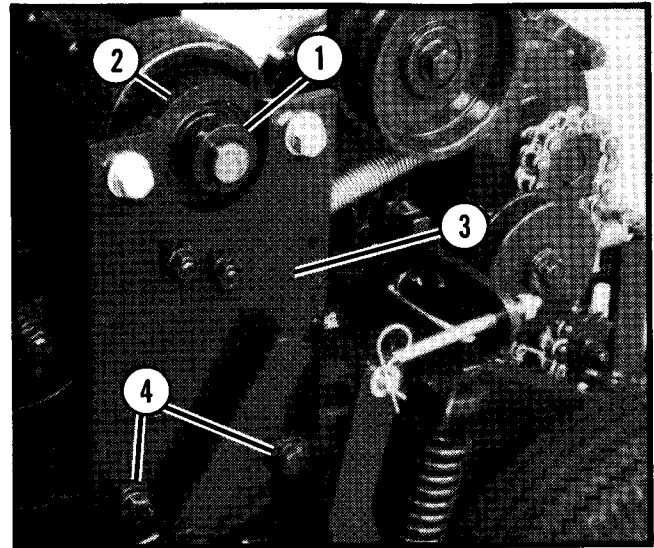

Figure 15. Drive Shaft Bearing Support
4. Loosen the set screw in the locking collar on the drive shaft (See Figure 15). Insert a punch in the small hole in the collar and use hammer to tap the collar clockwise (opposite direction of engine rotation) until it's loose (approx. 1/4 turn). Remove the collar.